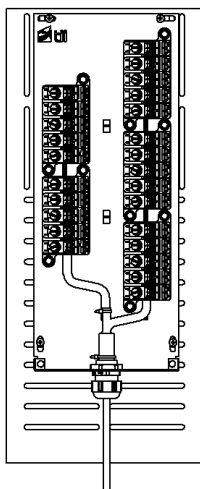

Figure 1
1. Mount terminal to the mounting plate using hardware provided (Figure 1).